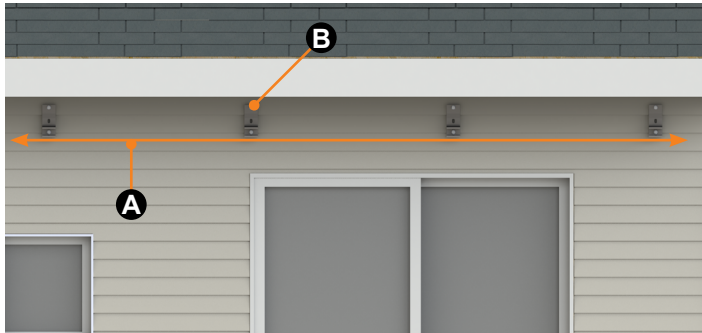

Fig.7
**NOTE:** Figure 7 depicts the “F” brackets installed as an example.